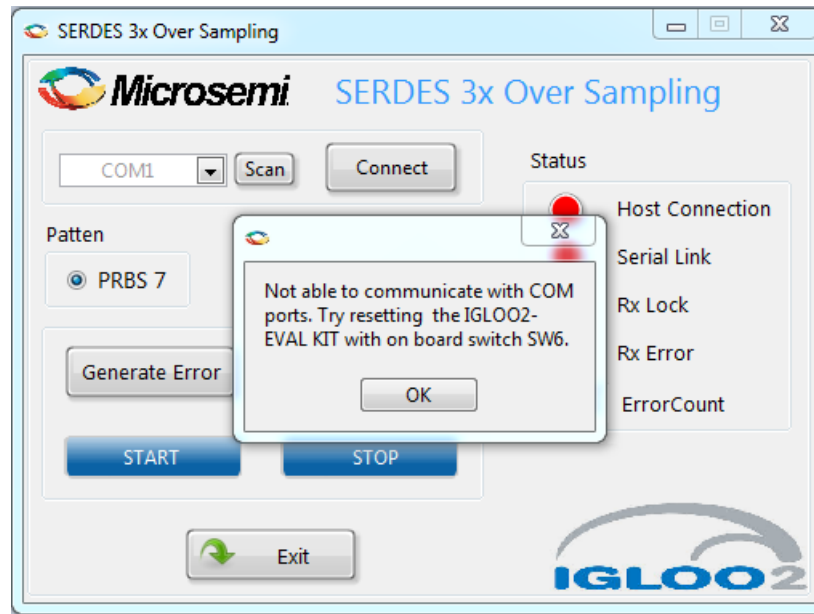

Figure 15 • Oversampling Window - No Ports Available
- Click **Scan** to refresh the list of ports available. If ports are not available, a message is displayed to reset the connection, as shown in Figure 15.